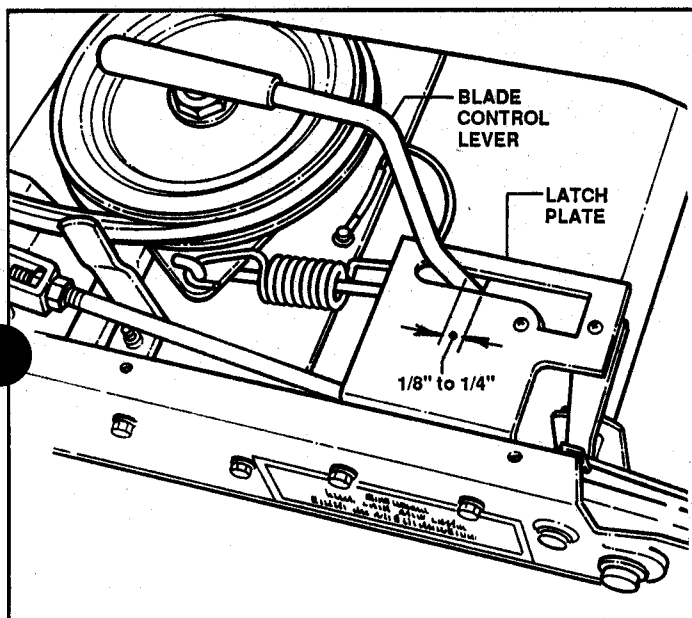

FIGURE 3.5
4. Release BLADE STOP PEDAL(S) and allow BLADE CONTROL LEVER to move to "OFF" position. Depress BLADE PEDAL(S) again and measure clearance between rear edge of latch plate and front of blade lever. Clearance should measure from 1/8" to 1/4". See Figure 3.5.